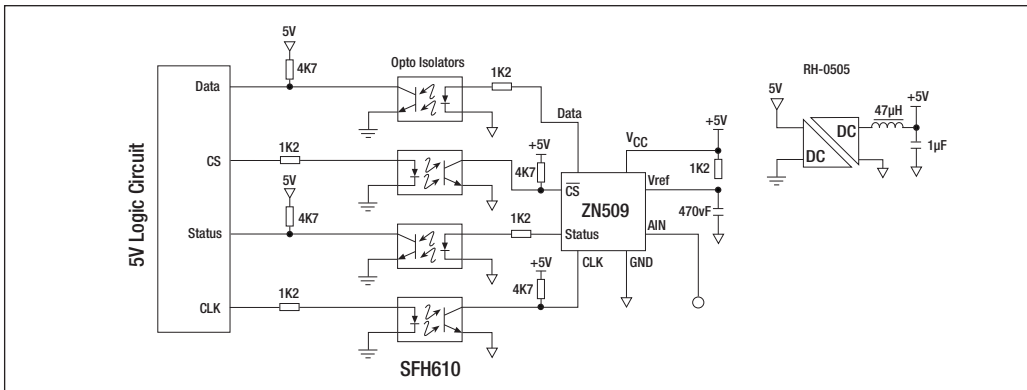

Figure 17: Isolated Serial ADC System
Any active system requiring isolation will need a DC-DC converter to provide the power transfer for the isolated circuit. In a data acquisition circuit there is also the need for low noise on the supply line; hence good filtering is required. The circuit shown (see figure 17) provides a very high voltage isolation barrier by using an RH converter to provide the power isolation and opto isolators for the data isolation. An overall system isolation of 2.5kV is achieved.
**EMC Considerations:** When used for isolating a local power supply and incorporating the appropriate filter circuits as illustrated in Fig. 17), DC-DC converters can present simple elegant solutions to many EMC power supply problems. The range of fixed frequency DC-DC converters is particularly suitable for use in EMC problem situations, as the stable fixed switching frequency gives easily characterised and easily filtered output. The following notes give suggestions to avoid common EMC problems in power supply circuits.